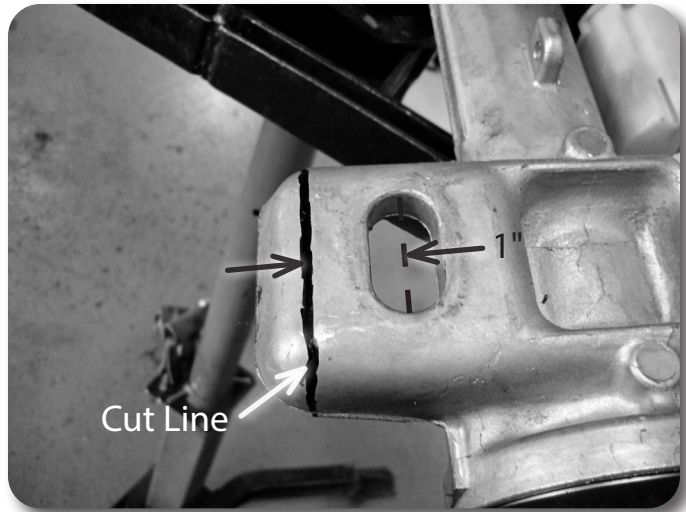
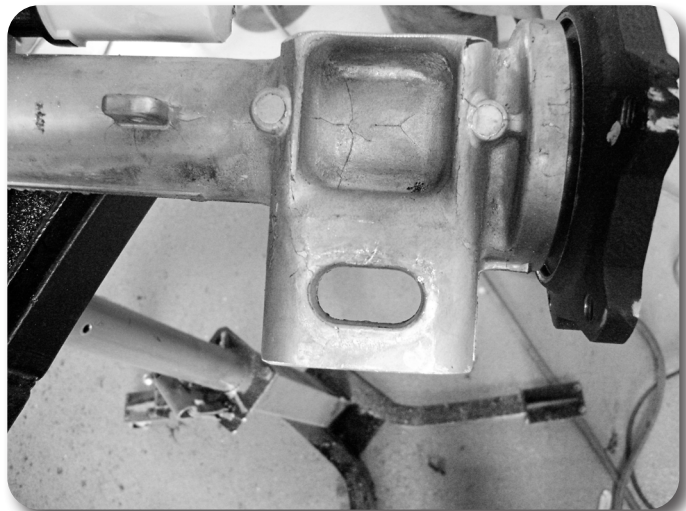

Figure 22
Figure 23
35. The rear side of this mount also needs to be trimmed. Measure 1" from the center of the slot and mark a cut line. Figure 22 Using a reciprocating saw, cut at the line Figure 23.